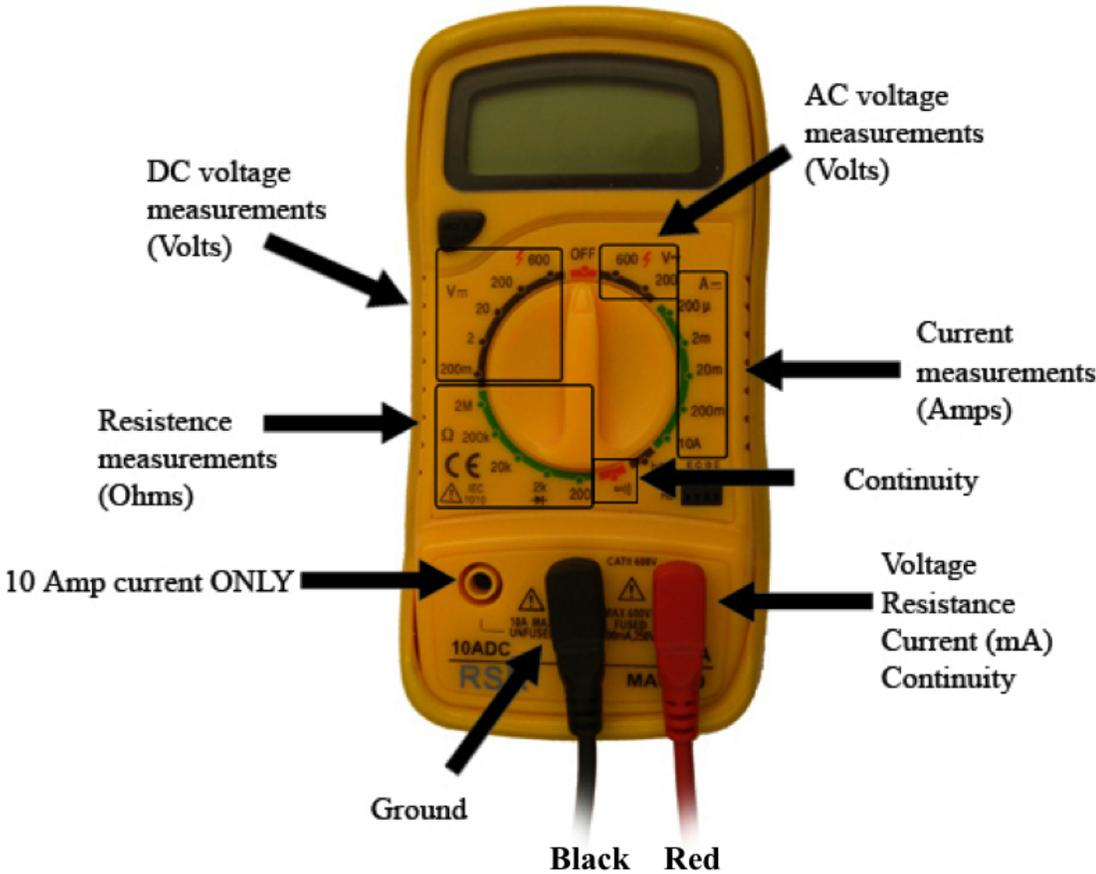

Figure 2.2: DMM Showing the Meter Switches
**Setting up a dial switch:** Choose an appropriate switch position for the measurement. Refer to Figure 2.2 for a description of each switch position. Make sure to set the dial switch before measuring, doing something like trying to measure voltage when the dial is set to current can possibly blow the fuse in your DMM.